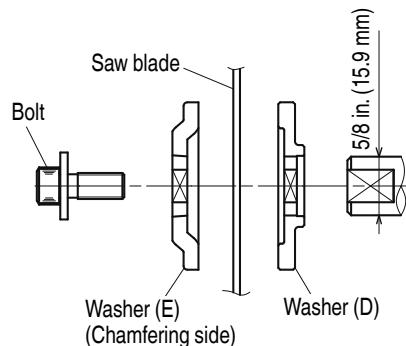

Fig. 36-c
- (6) Press in the spindle lock and tighten the bolt by turning it to the left by standard accessory's wrench (5 mm Hex, bar wrench) as indicated in Fig. 36-b.